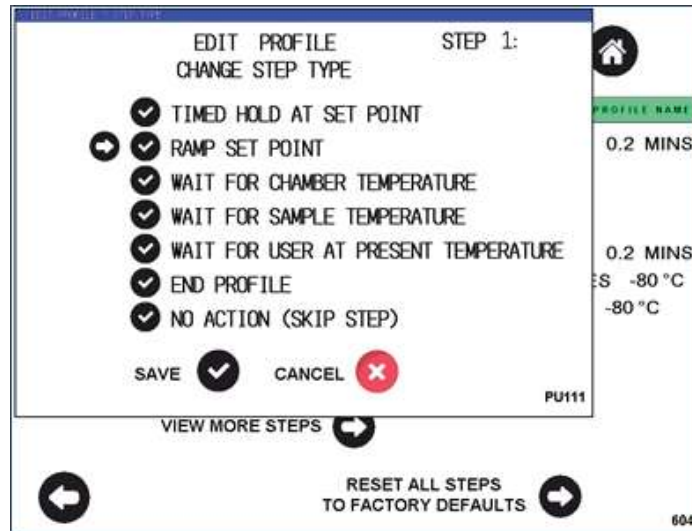

Figure 30: Change Step Type menu
8. Press the checkmark next to the desired step type (see step options listed under “change step type” in Figure 30). Refer to the following section “Programming Details” for a description of each step type.